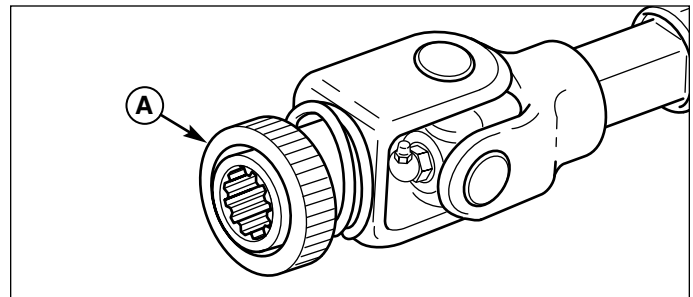

Figure 21. Attach Drive Shaft
9. See Figure 21. Attach the drive shaft. Pull back on the locking collar (A) and slide the drive shaft fully onto the snowthrower. Release the locking collar and pull back on the drive shaft until the locking collar locks onto the shaft.
2. See Figure 21. Disconnect the drive shaft by pulling back on the locking collar (A) and then pulling the shaft off.